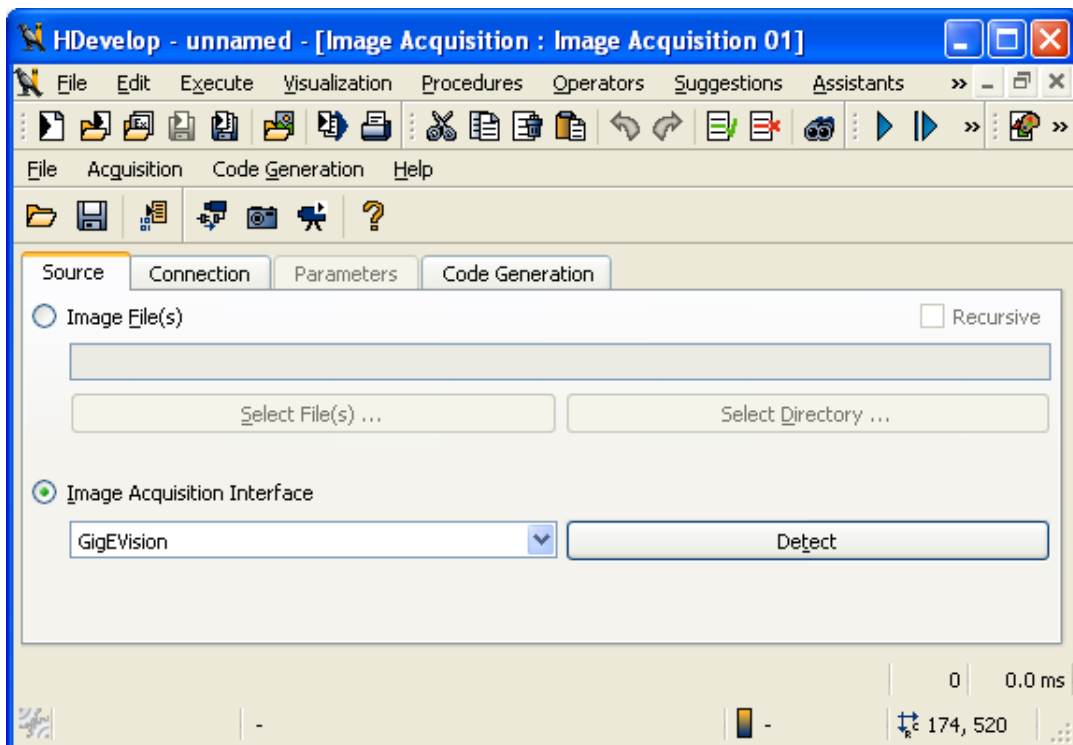
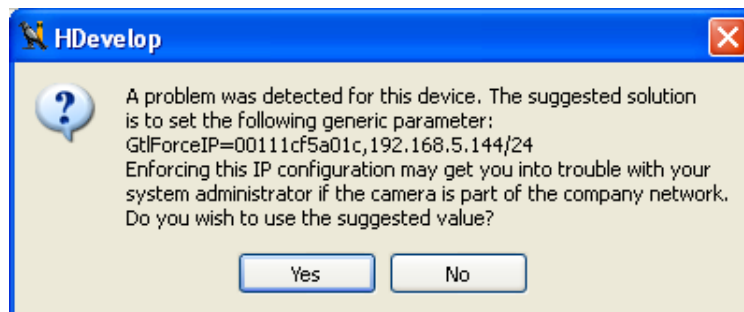

Figure 6.3: Detection of Image Acquisition Interface
Figure 6.4: Force IP window
3. Select Image Acquisition Interface and click on Detect (see Fig. 6.3). A window might be displayed that asks you to assign a fixed IP, click on Yes (see Fig. 6.4).
4. In the drop-down box in Image Acquisition Interface, select GigEVision (see Fig. 6.3).